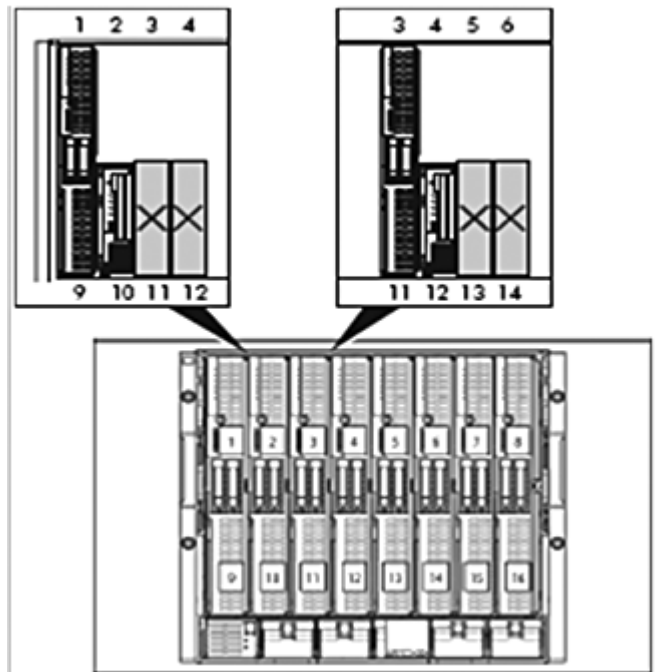

Figure 2 Installing a tape blade adjacent to a full-height server blade.
- Identify the partner server blade to be installed with the tape blade. The two blades always occupy a pair of slots, as follows: 9 & 10, 11 & 12, 13 & 14, 15 & 16 (See Figure 2).